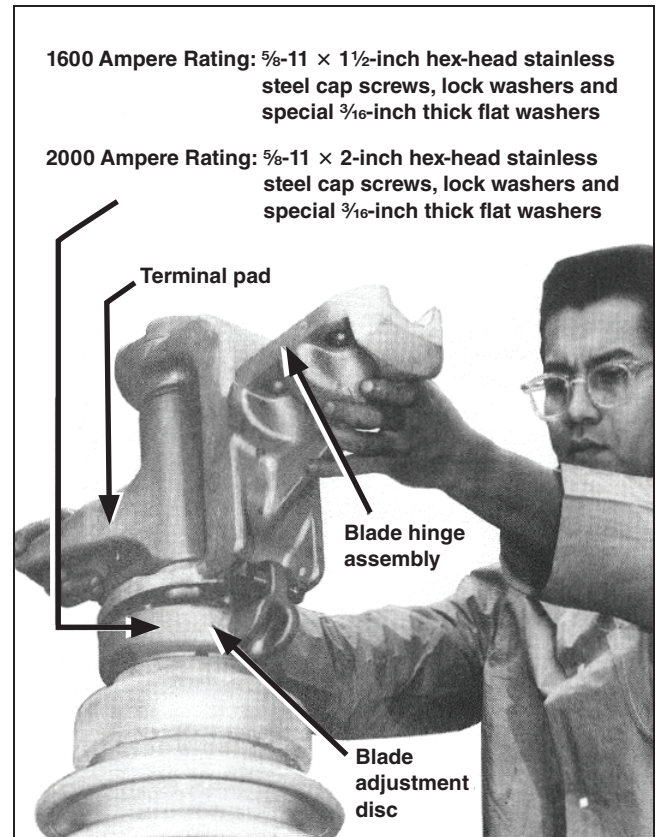

Figure 13. Mounting a terminal-end blade-hinge assembly (1600 amperes shown.)
STEP 14. Mount the terminal-end blade-hinge assembly on its rotating insulator stack in a manner similar to that described in Step 13 on page 16, with the stainless steel cap screws snug but loose enough for the slot adjustment. See Figure 13 on page 17.